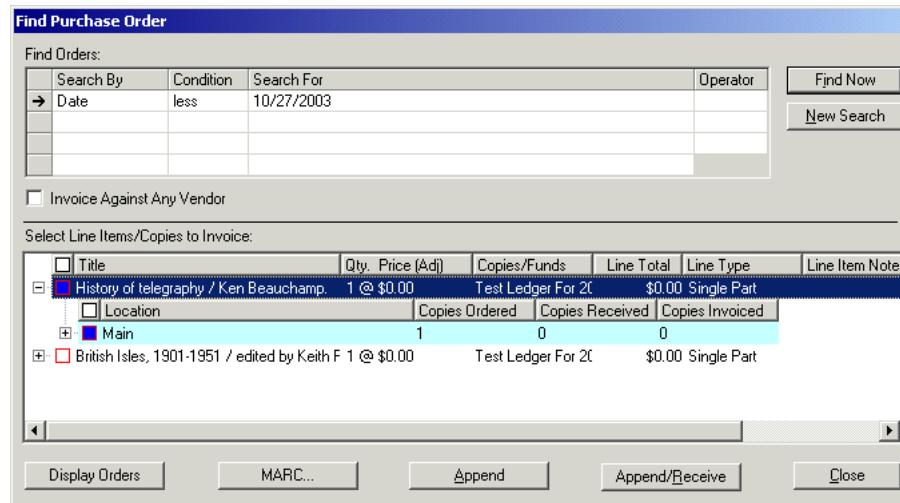

Figure 13-4. Find Purchase Order dialog box - MARC button displayed
- The **MARC** button on the **Find Purchase Order** dialog box (Figure 13-4). The **Find Purchase Order** dialog box is used when searching for purchase orders to append to an invoice. See Adding Line Items to an Invoice on page 12-18 for more information.